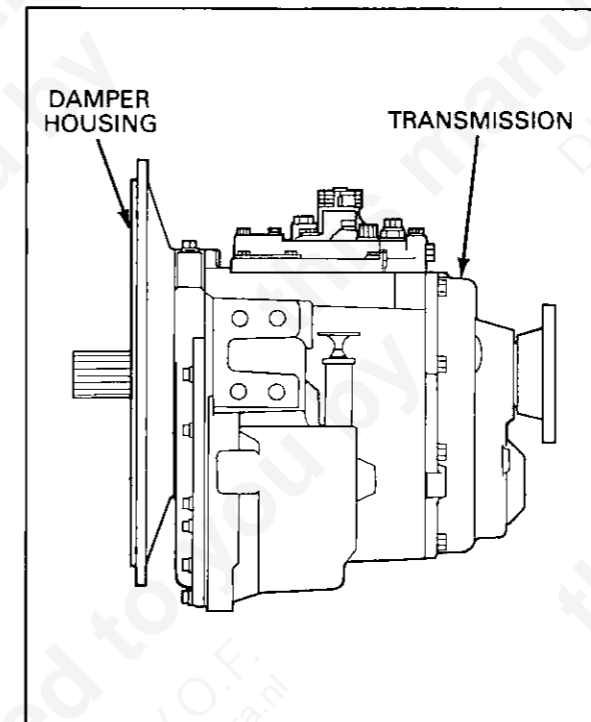

FIG. 9 DAMPER HOUSING REMOVAL
1. Remove all damper housing to transmission bolts and remove the damper housing from transmission (Fig. 9).